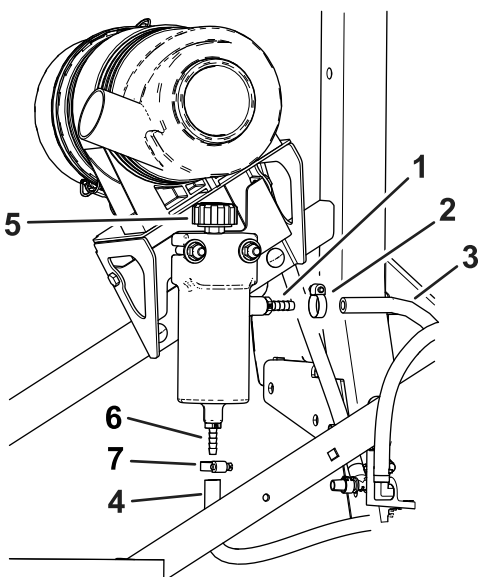

Figure 7
3. Connect the breather hose to the side fitting on the accumulator with a hose clamp (5/16 inch hose); refer to Figure 7.
4. Thread the breather into the top of the accumulator (Figure 7).
5. Connect the new hose to the bottom fitting on the accumulator with a hose clamp (Figure 7).